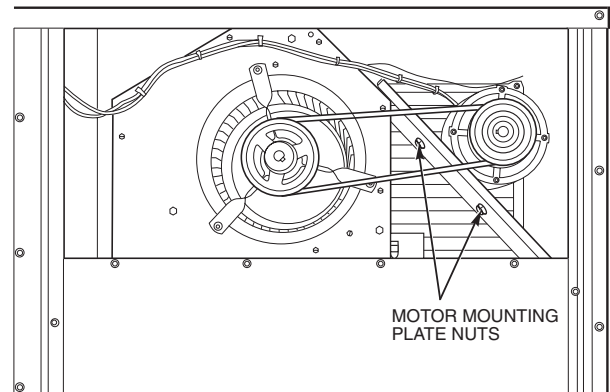

Fig. 34 — Belt Drive Motor Mounting
Fan motor pulleys are factory set for speed shown in Table 1. See Fig. 34 for belt drive motor location.
2. Loosen belt by loosening fan motor mounting nuts. See Fig. 34.